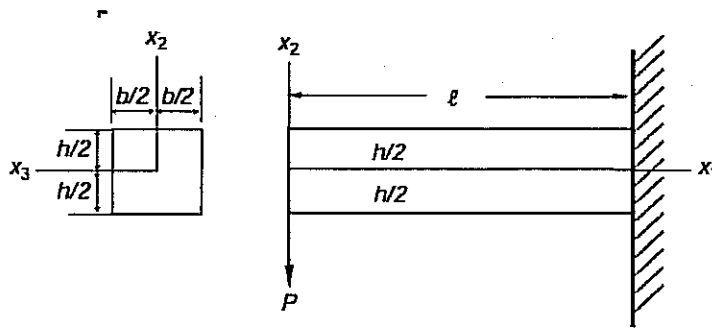

Figure Q6
- 6 a) Consider a rectangular beam, whose cross-section is defined by $-\frac{h}{2} \leq x_2 \leq \frac{h}{2}$ and $-\frac{b}{2} \leq x_3 \leq \frac{b}{2}$ and whose length, $0 \leq x_1 \leq l$ by, with the origin of the coordinates located at the center of the left cross-section. $x_1 = 0$ (Figure Q6). The following Airy stress function is tested for this beam $\varphi = \alpha x_1 x_2^3 + \beta x_1 x_3^2$.